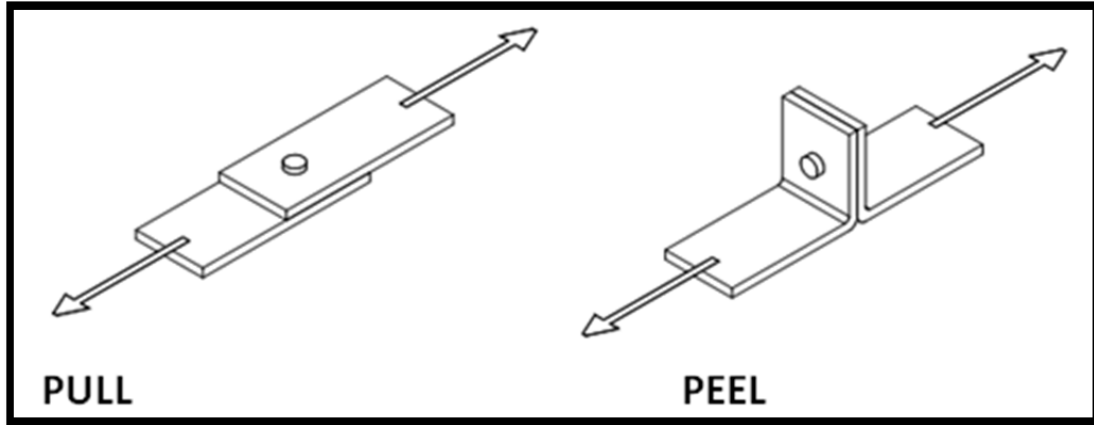

Figure 1 Pull - Peel Layout
1. There are two ways to measure the strength of a Clinchlok joint, pull and peel (see Figure 1 Pull - Peel Layout).